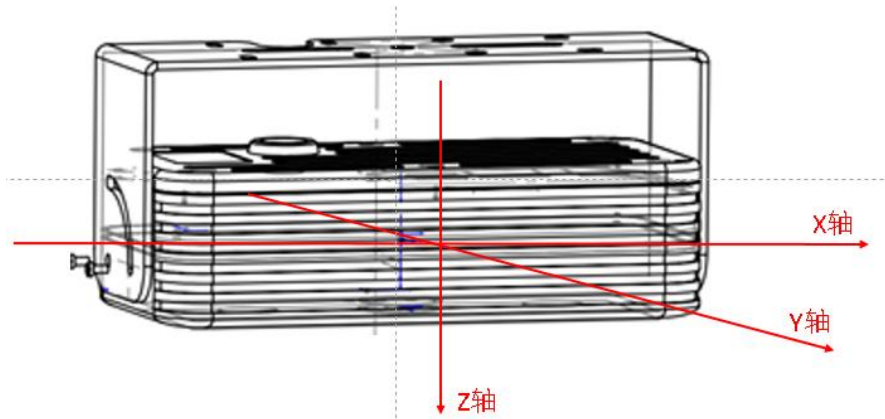

Figure 2-8 Example of equipment rotation axis
(2) Filtering height: refers to the passenger flow below this height will not be recorded in the passenger flow data;
(3) Rotation angle: The device supports rotation around the X-axis and Y-axis, as shown in Figure 2-8. According to the results of on-site installation, first determine which axis the device rotates around. If the angle is rotated around the X axis, you need to click the “Rotation Axis” button to select the X axis. At this time, the X axis of